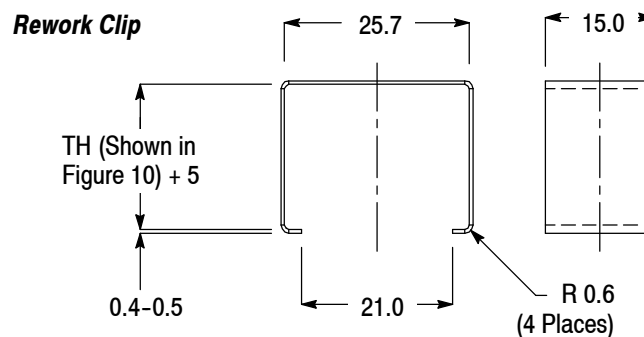

Figure 12
1. A rework clip must be assembled to the connector. A recommended rework clip is shown in Figure 12.